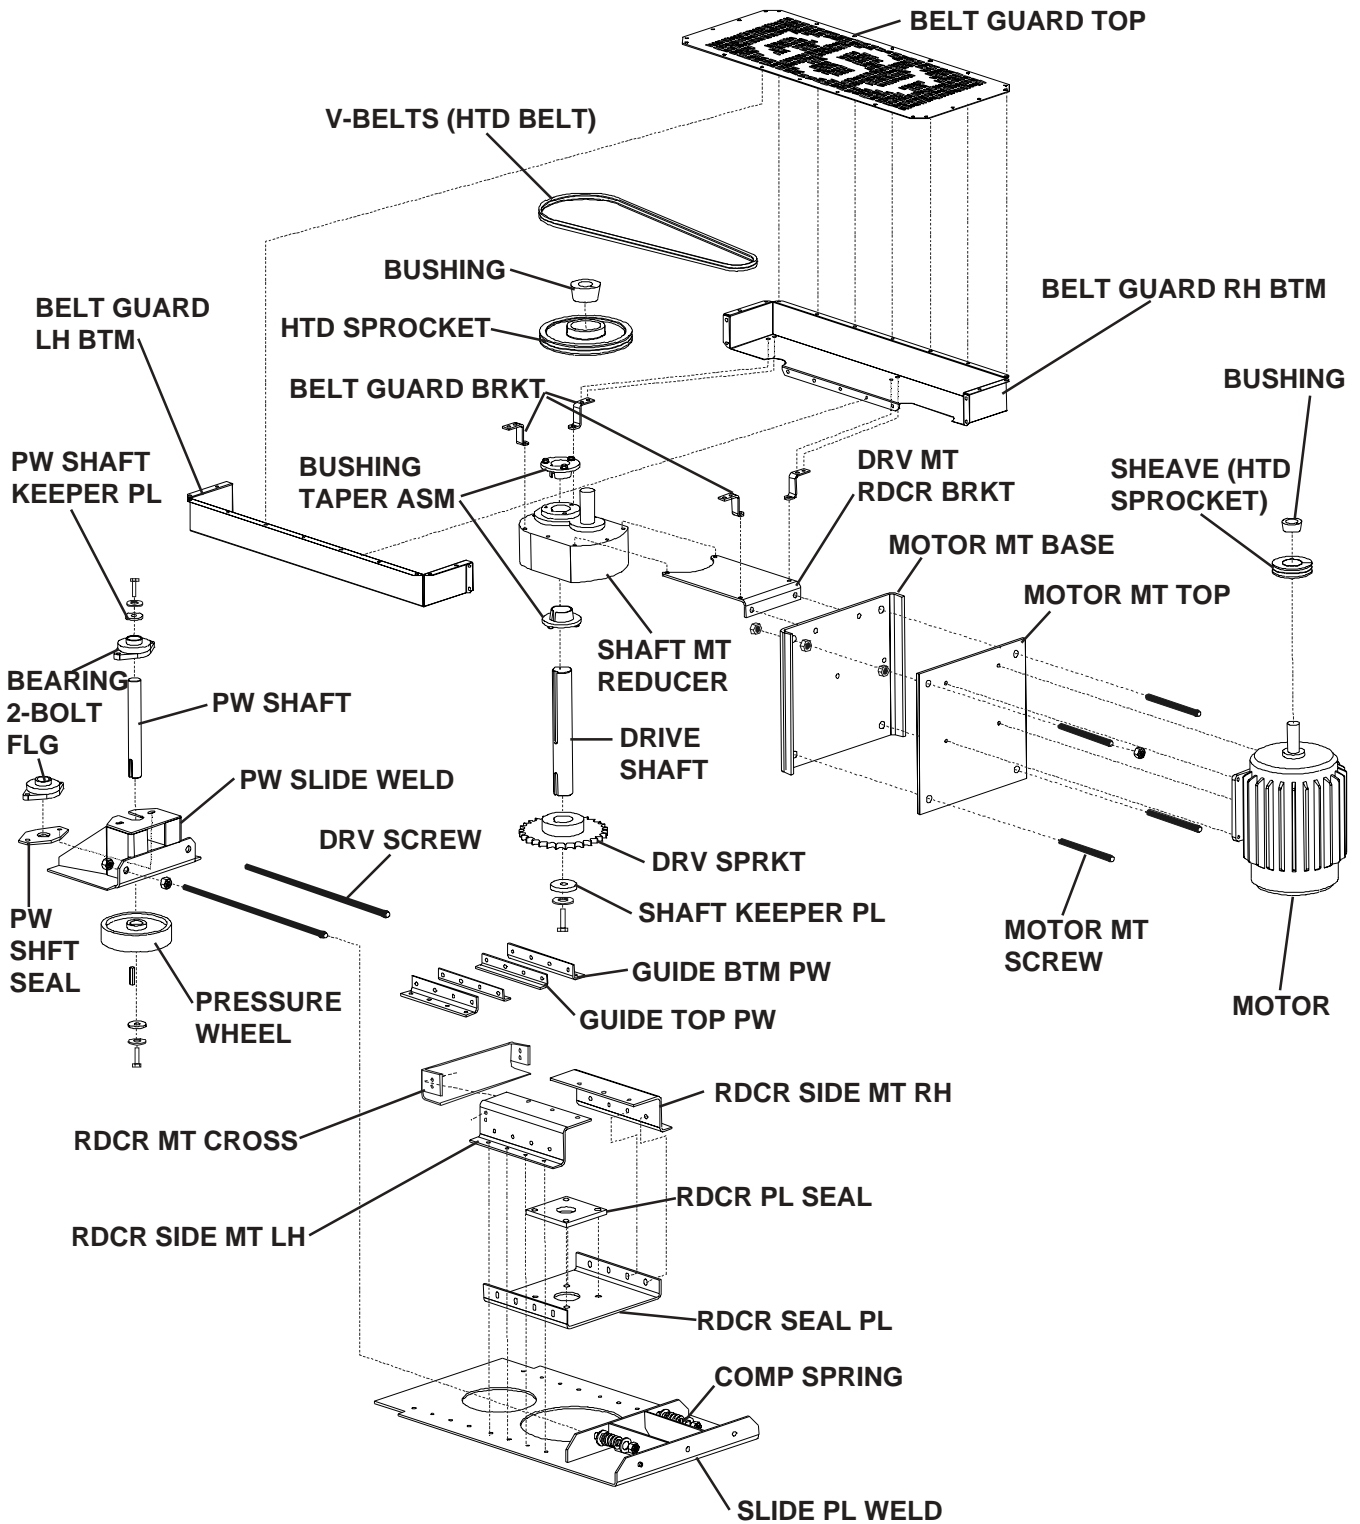

Fig. 11-1
4. Before setting the Pressure Wheel Assembly in place, install the **GUIDE BTM PW** on each side of the opening using 3/8" x 1-1/4" Gr. 5 Bolts with the Flanged Nuts on the top. Set the Pressure Wheel into place and tighten the Guide bolts. Using the same bolts, install the **GUIDE TOP PW** angles and tighten them. Verify that the Pressure Wheel slides freely after the Guides are tightened. (See Fig. 11-1)
5. Locate the **REDUCER**, **SHAFT MT**, the **RDCR SEAL PL**, the Left and Right **RDCR SIDE MT(s)**, the **RDCR MT CROSS** and the **RDCR PL SEAL**. Note that the Input Shaft of the Reducer is toward the outside of the unit. Install the Left and Right Reducer Side Mounts on the sides of the Drive using the existing hardware. The Mount Cross part bolts to each Side Mount. **Move the breather on the Drive to the Input Shaft side.** (See Fig. 11-1)